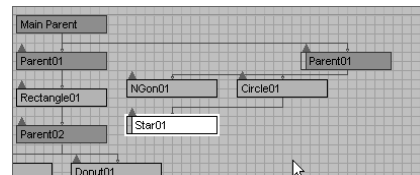

Figure 3.50
3. When you release the mouse button, notice that the Star01 node is linked under the Circle01 node, as shown in Figure 3.50. The Star was automatically unlinked from its old parent.